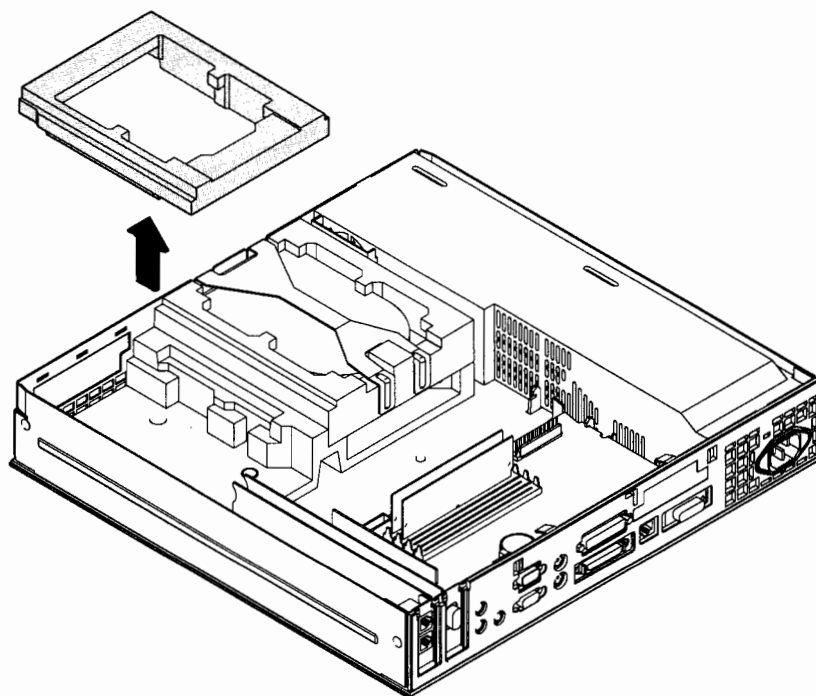

Figure B-4. Removing the Floppy Disk Drive Foam Bracket
2. Remove the top foam piece from the floppy drive bay, as shown in Figure B-4.